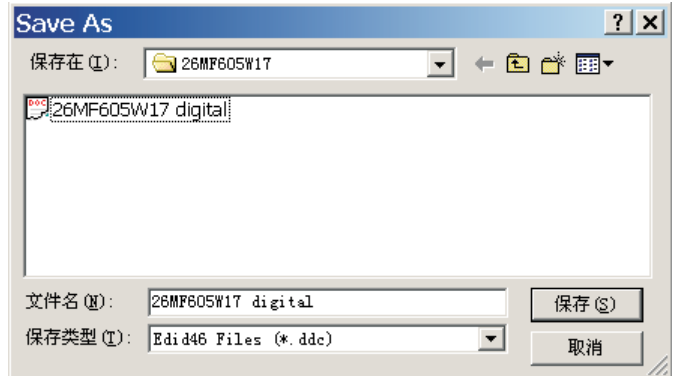

Fig.42
1. Click (Save) icon (or click "file"-> "save as") from the tool bar and give a file name as shown in Fig. 42.